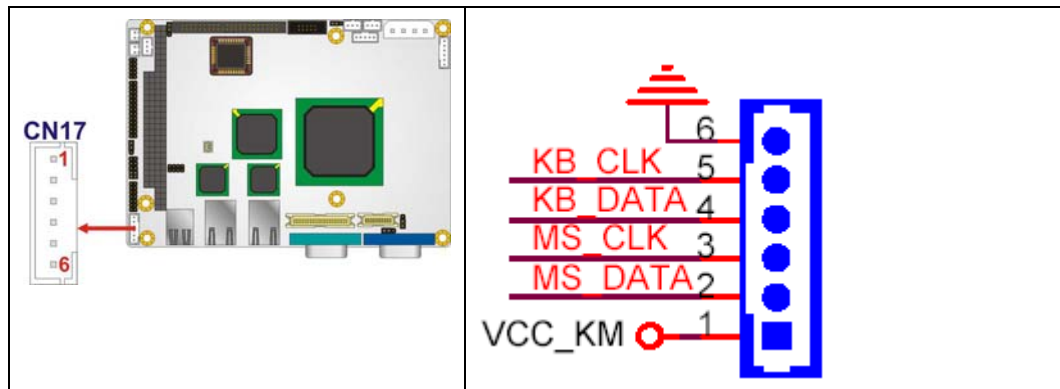

Figure 4-14: Keyboard/Mouse Connector Location
- CN Location:** See **Figure 4-14**